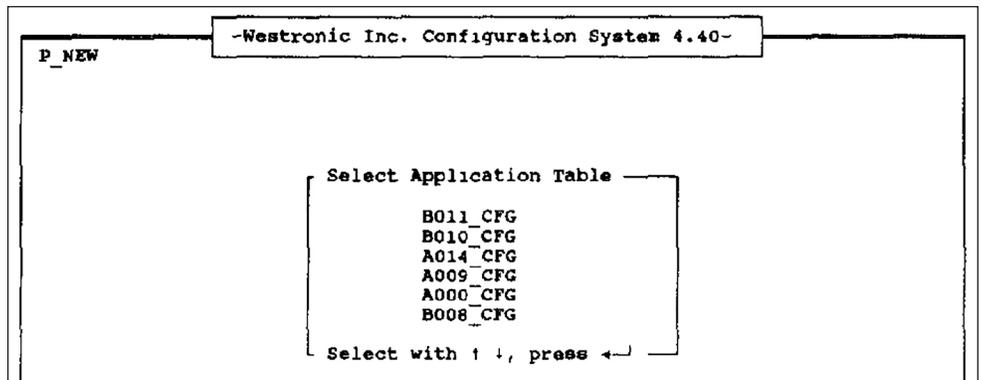

Figure 7. The *Select Application Table* screen.
STEP 5. Using the arrow keys, select the **Configure Applications** option and press the <ENTER> key. The *Select Application Table* screen will open. See Figure 7.